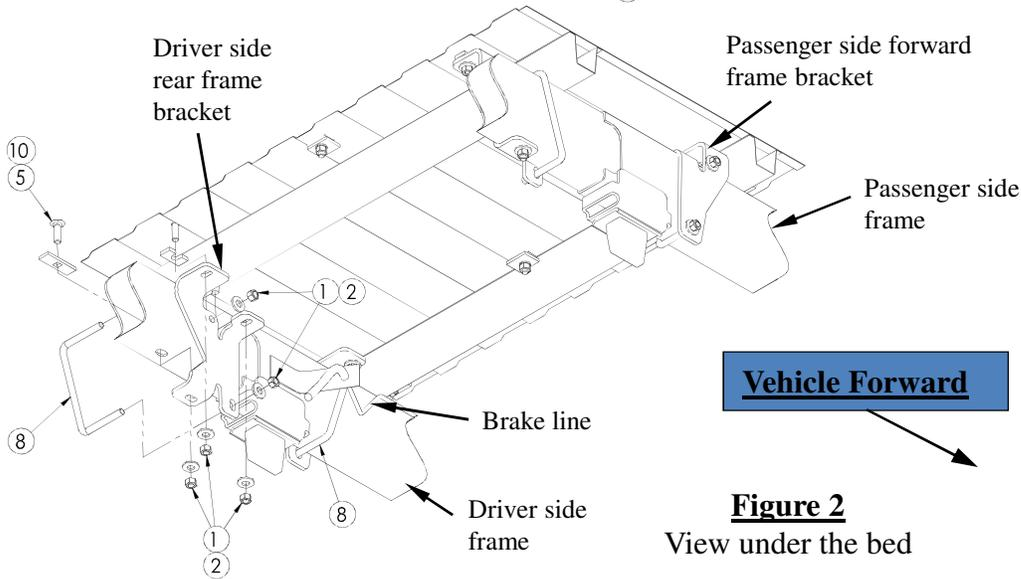

Figure 2
- b) Install a u-bolt on each of the brackets. The u-bolt wraps around the inside of the frame. Loosely install 1/2" conical washers and hex nuts onto the ends of the u-bolts. **NOTE: The u-bolt on the driver side must be placed between the brake line and the frame. See Figure 2. Improper placement of the driver side u-bolt may result in damage to the vehicle's braking system.**